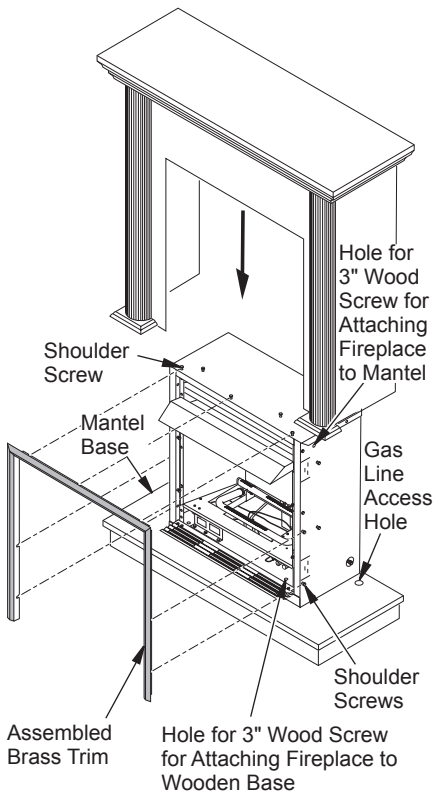

Figure 12 - Attaching Brass Trim to Fireplace
3. Place fireplace on wood base (see Figure 12, page 13).
4. Place mantel around fireplace on base (see Figure 12, page 13).
6. Firmly snap perimeter trim kit on shoulder screws. Shoulder screws are located on fireplace cabinet (see Figure 12, page 13).
9. Use two 3" wood screws provided and attach base of fireplace to wooden mantel base (see Figure 12, page 13).
11. Cut an access hole in base to run flexible gas line to fireplace (see Figure 12, page 13). Make sure to locate access hole so mantel will cover it when installed. **Note:** You can secure base to floor using wood screws. Countersink screw heads and putty over.
15. Place perimeter trim kit on the shoulder screws located on the side and top of the fireplace. Firmly snap trim over shoulder screws on fireplace (see Figure 12).
16. Adjust assembly to remove any gaps. Attach remaining two 3" wood screws from hardware pack through openings inside of fireplace sides into the mantel. The openings are located at top behind the area for top louver (see Figure 12).